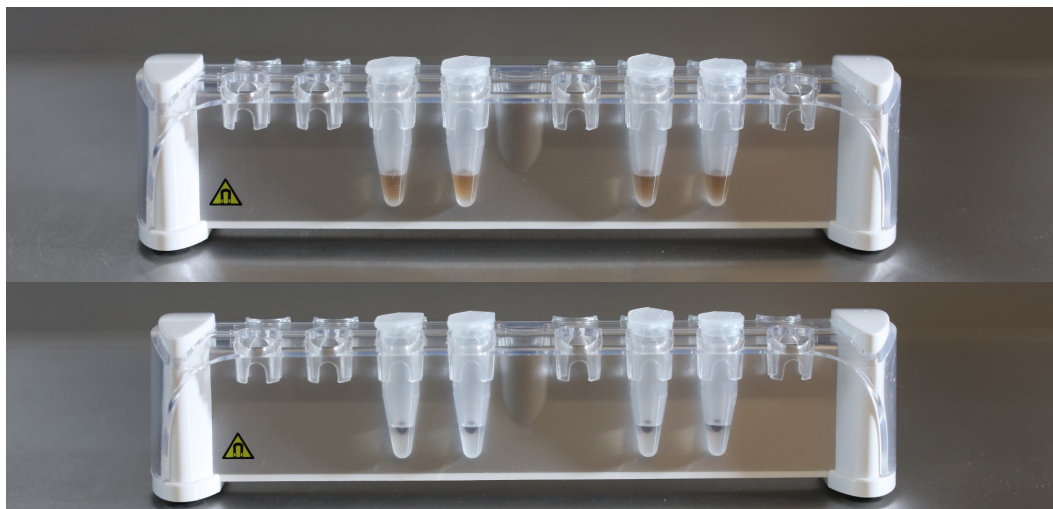

Figure 17. Tubes in DynaMag™-2 Magnetic stand.
7. After the incubation, place the BP Tube on the DynaMag™-2 Magnetic stand and leave it for 2 minutes to separate the beads from the solution (Figure 17).